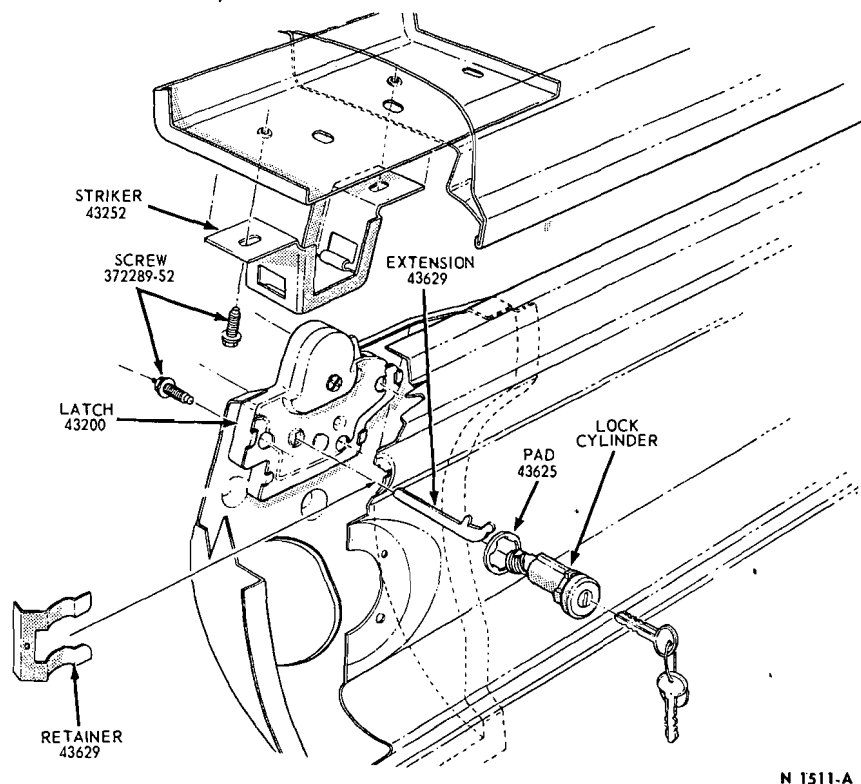

FIG. 39—Luggage Compartment Latch Mechanism—Mustang—Typical
1. Open the luggage compartment door and remove the lock cylinder retainer located behind the latch (Fig. 39).
4. Position the lock cylinder, pad, and extension to the back panel and latch (Fig. 39) and install the retainer.
5. Position the lock cylinder, pad, and extension to the back panel and latch (Fig. 39) and install the retainer.